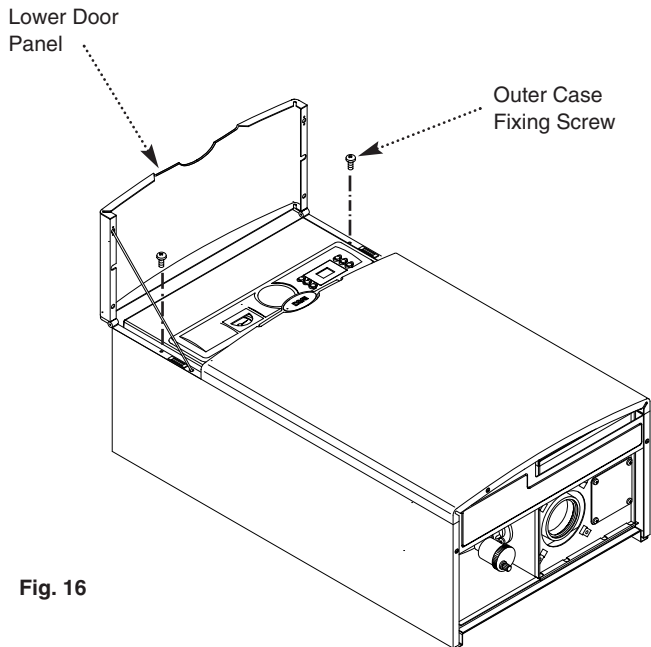
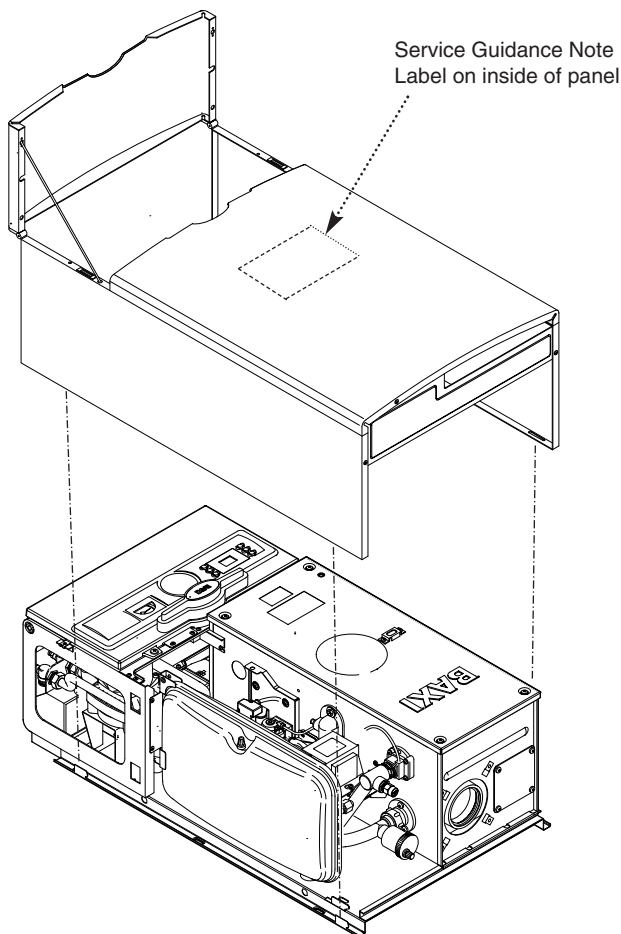

Fig. 16
Fig. 17
2. Hinge up the lower door panel (Fig. 16).
3. Remove the outer case fixing screws (Fig. 16). Slide the outercase upwards to disengage the hooks on the backplate and remove (Fig. 17).
NOTE: Service Guidance Note Label is fitted to the inside of the outercase (Fig. 17).